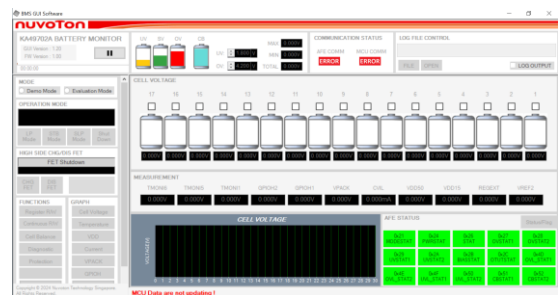

Figure 2.3.8 Example of Normal and Abnormal of PC GUI
- 5) Execute the PC GUI software, the Main Window of PC GUI will be displayed as shown in Figure 2.3.8 below. Users have the option to verify the setup's connections or restart the PC GUI in case the Main Window displays abnormalities.